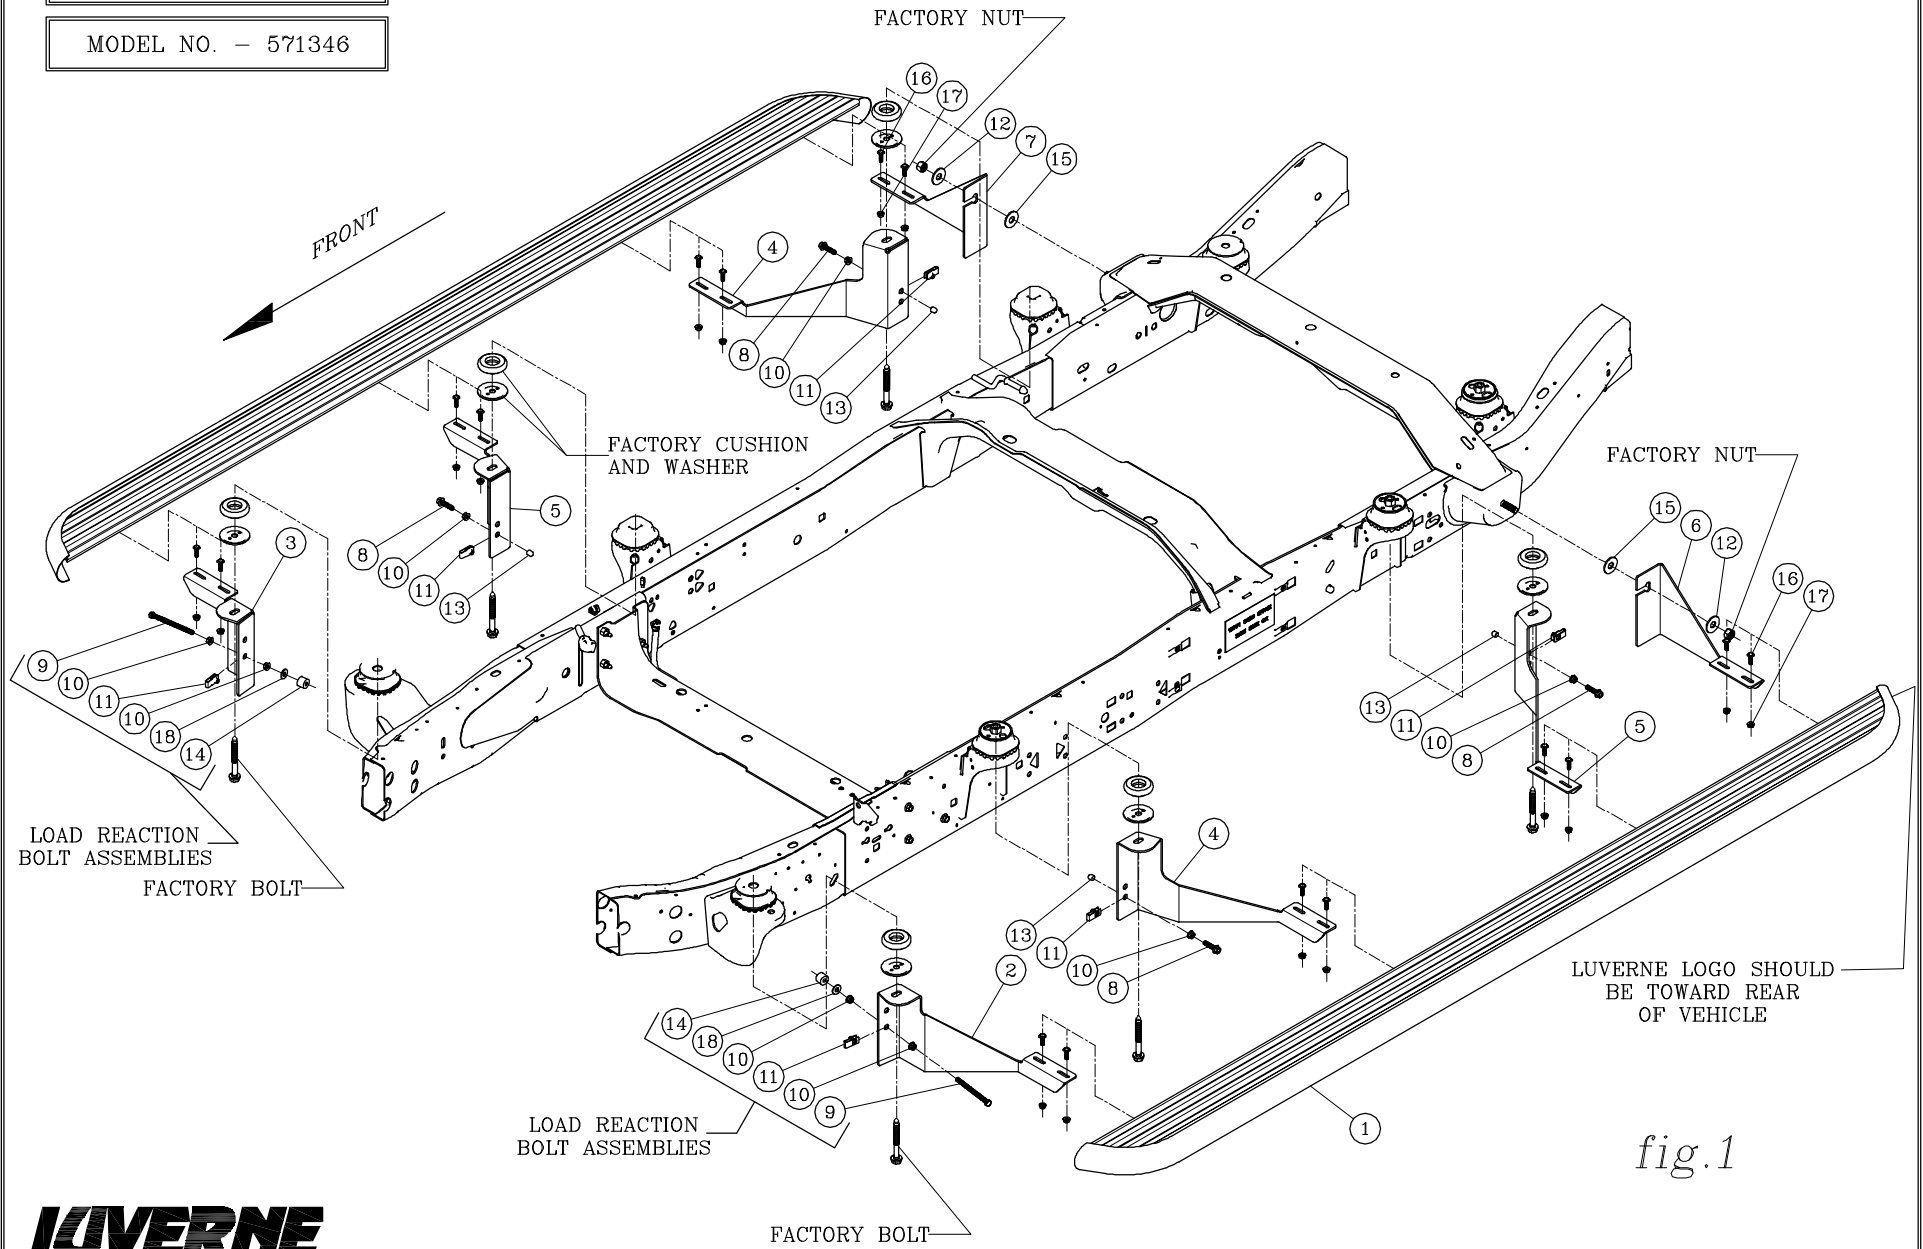

fig.1
3. BEFORE ATTACHING THE O-MEGA STEPS TO THE BRACKETS, PLACE THE STEP PADS (ITEM #2) ON TOP OF THE STEP PLATES. USE THE TABLE ON SHEET #2, AS A GUIDE TO POSITION THE STEP PAD FOR YOUR PARTICULAR VEHICLE. WHEN INSTALLING THE PADS ON THE STEPS, DRILL (5) 1/8" HOLE USING THE STEP PAD AS A GUIDE. ATTACH WITH (5) 8-18X1/2" TEK SCREWS (ITEM #6) PROVIDED. REPEAT FOR ALL STEP PADS. (**NOTE: DUE TO THE SHORTNESS OF SOME BOXES, MOUNT THE BOX STEP PAD FIRST, APPROXIMATELY 1/2" FROM THE END CAP AND THEN MOUNT THE MIDDLE STEP PAD ACCORDINGLY.**)
5. INSTALL THE END CAPS (ITEM #3) AS SHOWN IN *fig. 1*, TIGHTENING THE NUTS TO 5 LB FT.
4. INSTALL A 3/8"-16 SERRATED FLANGE NUT (ITEM #10) ON THE 3/8"-16 X 5" HEX BOLT (ITEM #9) WITH THE FLANGE FACING TOWARD THE END OF THE BOLT AND TURN ON JUST SHORT OF THE HEAD. SCREW THE BOLT INTO THE U-NUT AND WHEN IT COMES THROUGH THE OTHER SIDE START ANOTHER FLANGE NUT FACING THE AS THE FIRST NUT. TURN THE NUT ON UNTIL THERE IS 3/4" PROTRUDING FROM THE FACE OF THE NUT, INSTALL A 3/8" FLAT WASHER (ITEM #18) AND THE .354 X 1.00 X .748 RUBBER WASHER (ITEM #14) INTO THE END OF THE BOLT. ADJUST THE LOAD REACTION BOLT ASSEMBLY SO THAT THE RUBBER CUSHION IS SNUG AGAINST THE FRAME AND TIGHTEN DOWN THE OUTSIDE FLANGE NUT. (LOAD REACTION BOLT ASSEMBLY) AS SHOWN IN *fig. 1*.
8. INSTALL A 3/8"-16 SERRATED FLANGE NUT (ITEM #10) ON THE 3/8"-16 X 1-3/4" HEX BOLT (ITEM #8) WITH THE FLANGE FACING TOWARD THE END OF THE BOLT AND TURN ON JUST SHORT OF THE HEAD. SCREW THE BOLT INTO THE U-NUT AND WHEN IT COMES THROUGH THE OTHER SIDE ADJUST THE LOAD REACTION BOLT ASSEMBLY SO THAT THE RUBBER PLUG IS SNUG AGAINST THE FRAME AND TIGHTEN DOWN THE OUTSIDE FLANGE NUT. (LOAD REACTION BOLT ASSEMBLY) AS SHOWN IN *fig. 1*.